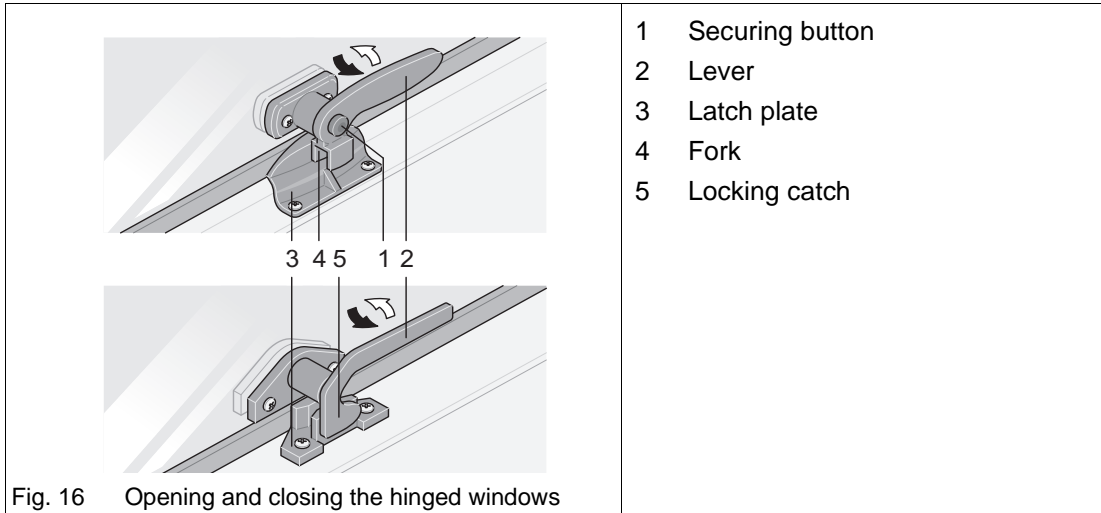

Fig. 16 Opening and closing the hinged windows
- ➔ If the locking lever has a securing button (Fig. 16/1), press and hold down the securing button.
- ➔ Turn the lever (Fig. 16/2) to the middle of the window.
- ➔ Turn the lever (Fig. 16/2) to the window frame.
- ➔ The fork (Fig. 16/4) of the lever (Fig. 16/2) closes completely on the inside of the latch plate (Fig. 16/3).
Some models are equipped with additional locking levers (Fig. 16).